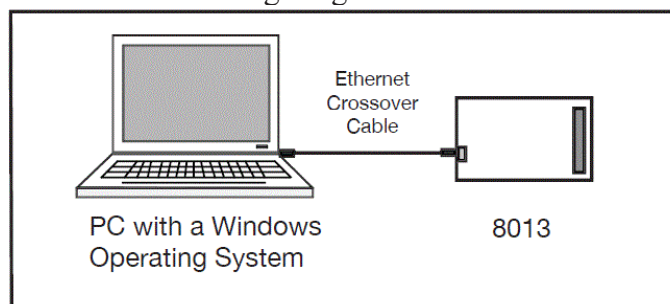

Figure 4-6 8003 Connected to PC with a Crossover Cable
1. Connect the board directly to the WIN32 PC that will be running the Configuration Utility. Disconnect the PC from the company network and use the supplied Ethernet Crossover Cable to connect the PC to the board as shown in Figure 4-6. This will eliminate any potential network conflicts while configuring the board.